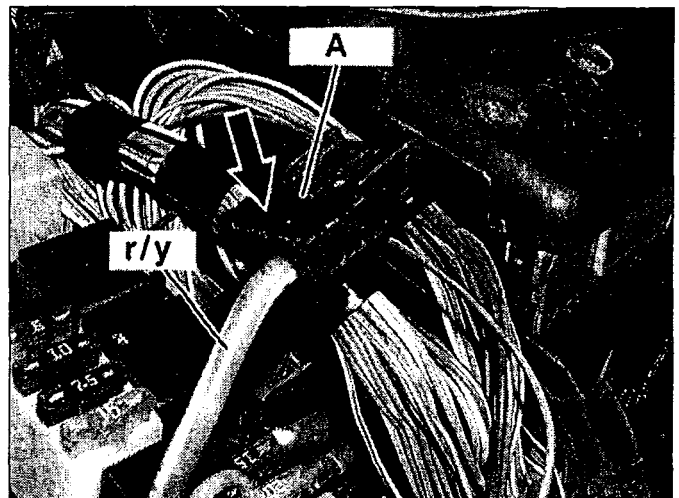

Figure 5
- The fuse holder (35) and fuse can be discarded.
6. Install unpinned wire connector (with r/y wire, Figure 5) into new harness connector (A):
- Insert the unpinned wire connector (with r/y wire, Figure 5) into position 1 of the new harness connector (A).